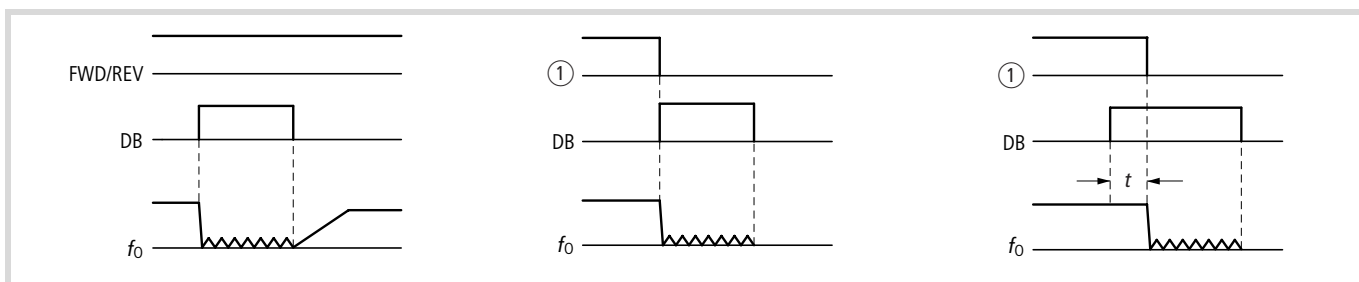

Figure 133: Function chart for DB (DC braking)
① Start signal through keypad
- In PNU A053, enter a delay time t (→ fig. 133) from 0 to 5.0 s, which is to expire before DC braking takes effect after activation of the DB input.